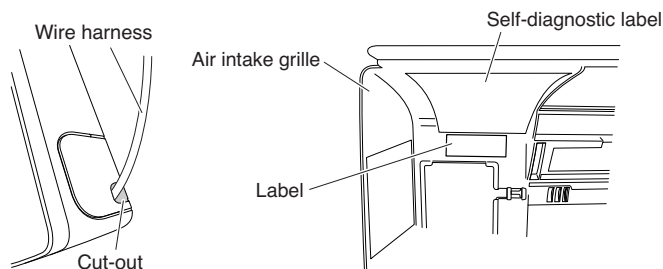

Fig. 7a
- (12) Route the wire harness out through the small cut-out located at the bottom right side of the indoor unit frame. (Fig. 7a)
- (11) Route the wire harness out through the small cut-out located at the bottom right side of the indoor unit frame. (Fig. 7a)